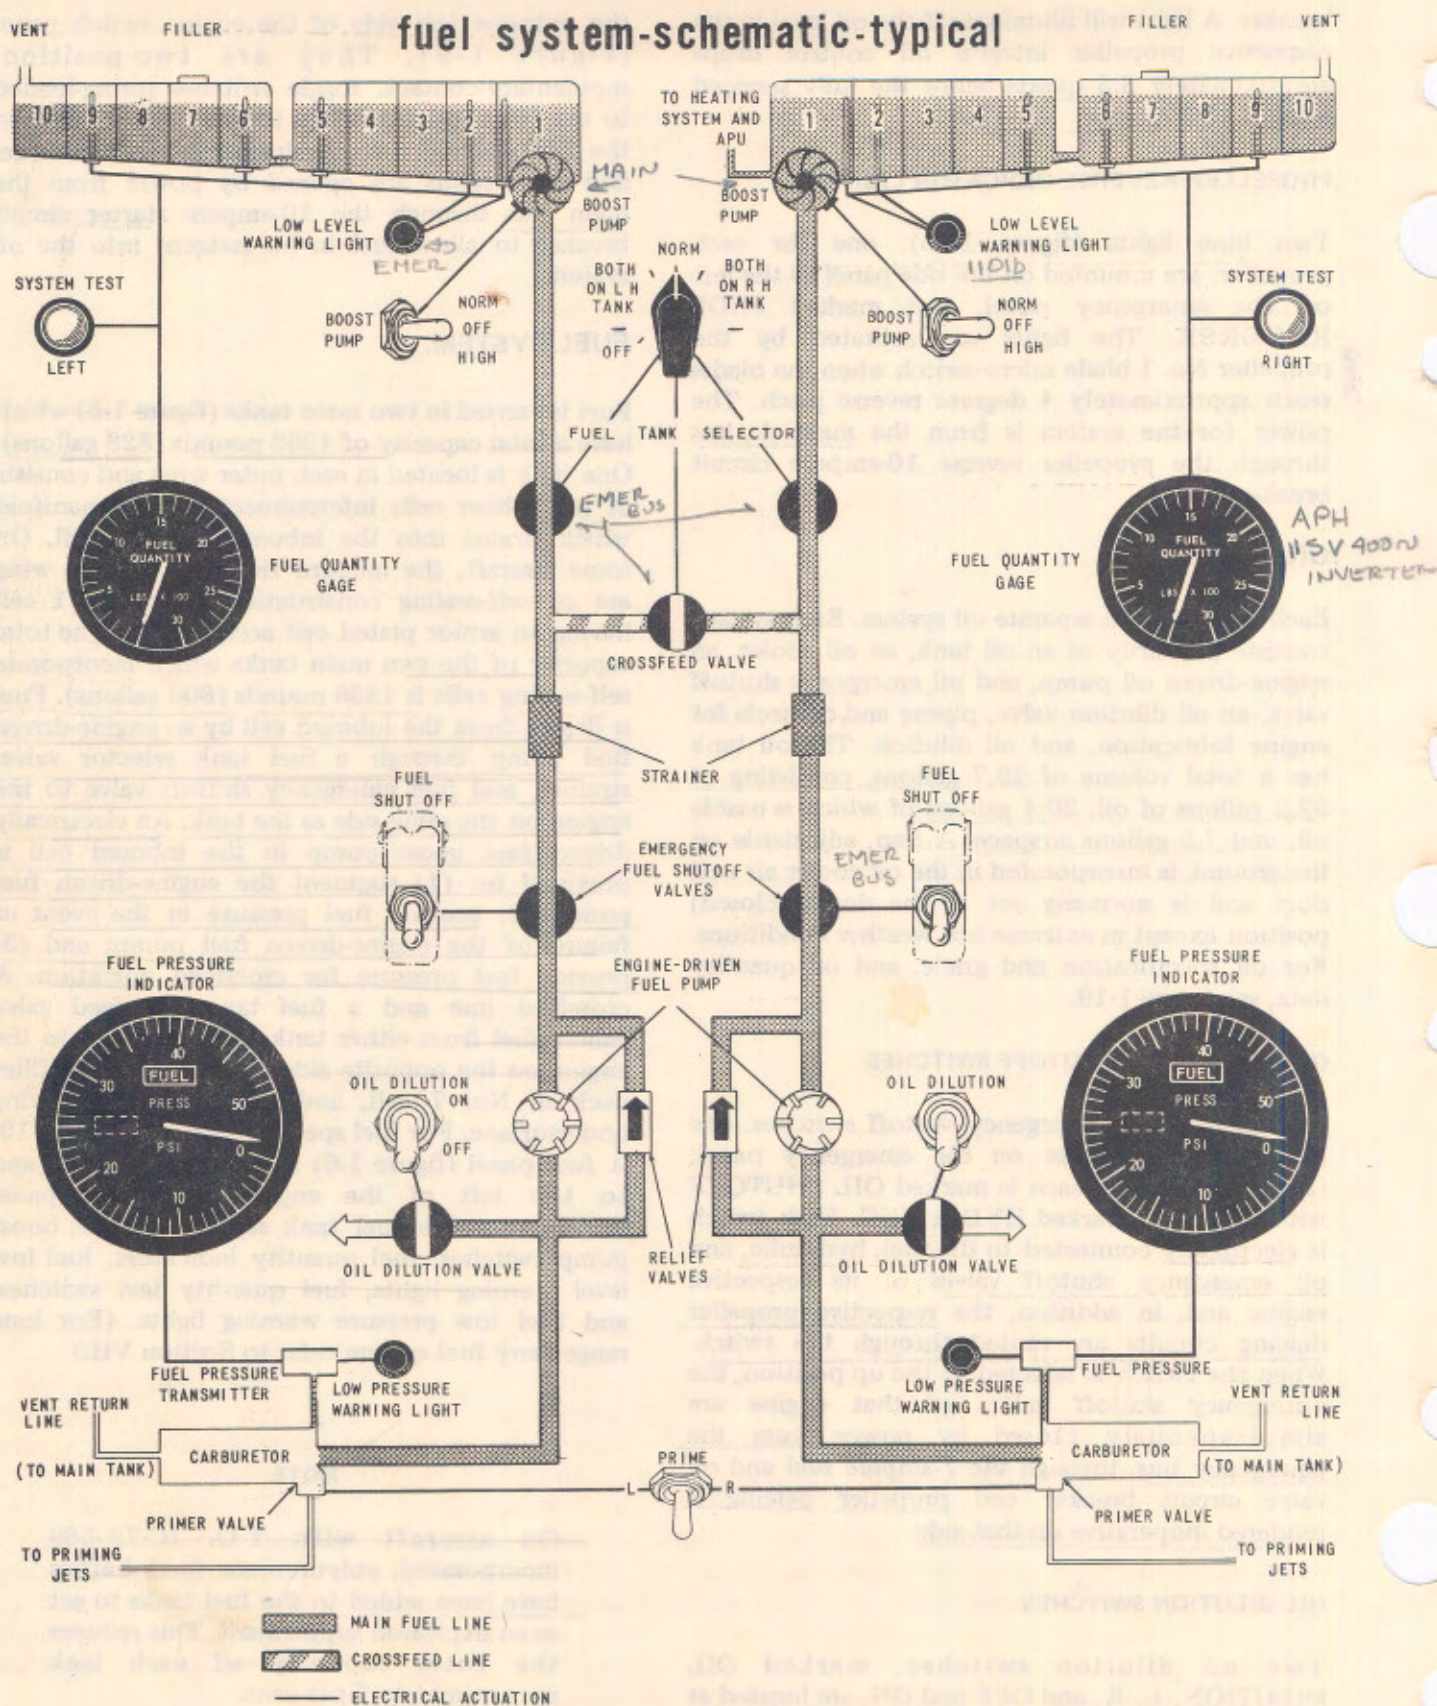
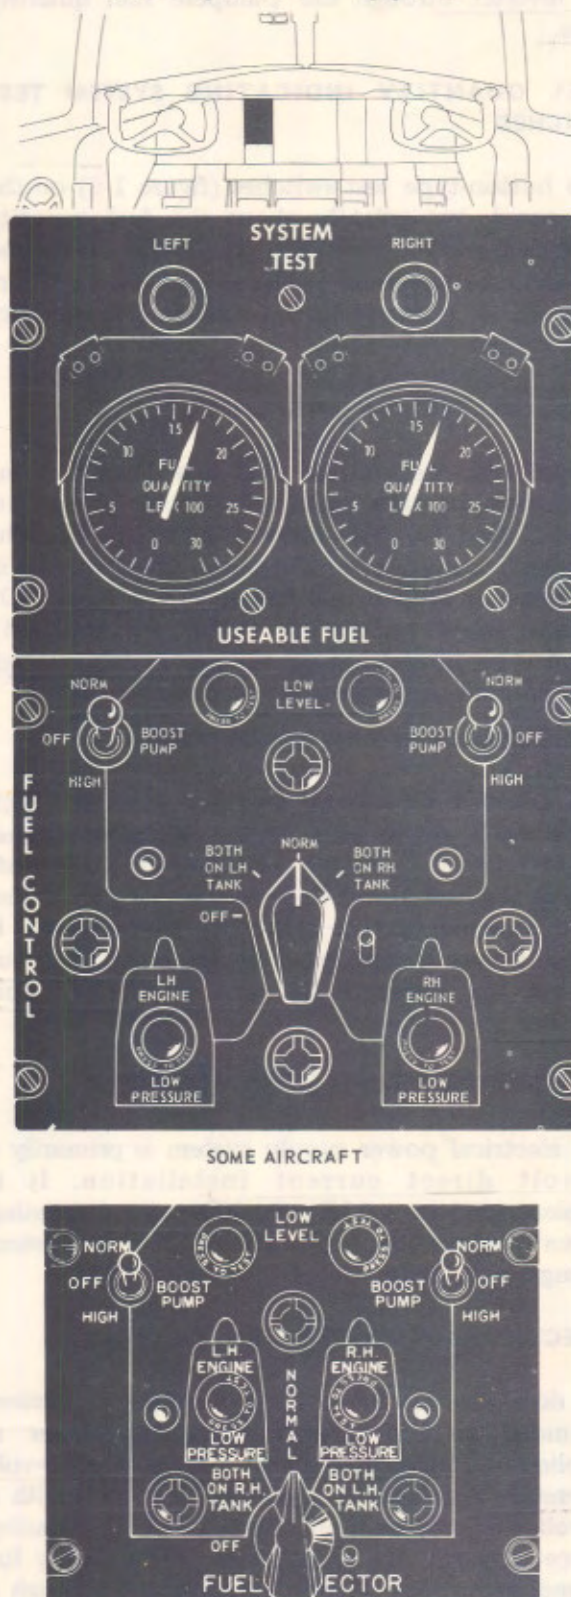

Figure 1-5
Figure 1-6
A red press-to-test warning light (figure 1-6) is provided for each engine. The lights are marked LH and RH ENGINE LOW PRESSURE, for the left and right engines respectively. A light will illuminate when fuel pressure at the carburetor inlet on the engine drops below 12 psi. Power is supplied from the emergency bus and the circuit is protected by the 5-ampere circuit breaker marked PRESS WARN, FUEL & OIL.
Fuel is carried in two main tanks (figure 1-5) which have a total capacity of 4968 pounds (828 gallons). One tank is located in each outer wing and consists of ten rubber cells interconnected by a manifold which drains into the inboard (No. 1) cell. On some aircraft, the inboard five cells in each wing are of self-sealing construction, with No. 1 cell having an armor plated cell access panel. The total capacity of the two main tanks which incorporate self-sealing cells is 4836 pounds (806 gallons). Fuel is drawn from the inboard cell by an engine-driven fuel pump through a fuel tank selector valve, strainer, and fuel emergency shutoff valve to the engine on the same side as the tank. An electrically driven fuel boost pump in the inboard cell is provided to: (1) augment the engine-driven fuel pump; (2) provide fuel pressure in the event of failure of the engine-driven fuel pump; and (3) provide fuel pressure for crossfeed operation. A crossfeed line and a fuel tank crossfeed valve enable fuel from either tank to be supplied to the engine on the opposite side. Each tank has a filler neck in No. 7 cell, and is vented to the wing undersurface. For fuel specification see figure 1-19. A fuel panel (figure 1-6) in front of the pilot and to the left of the engine instrument panel incorporates the fuel tank selector switch, boost pump switches, fuel quantity indicators, fuel low level warning lights, fuel quantity test switches, and fuel low pressure warning lights. (For long range ferry fuel system refer to Section VII.)
The rotary type fuel-tank selector switch located on the fuel panel (figure 1-6), on some aircraft, has four positions marked, in sequence from the left, OFF, BOTH ON R.H. TANK, NORMAL, and BOTH ON L.H. TANK. On some aircraft the switch has four positions marked, in sequence from the left, OFF, BOTH ON L.H. TANK, NORM, and BOTH ON R.H. TANK. On all Model C-7A aircraft, when the switch is OFF the fuel supply to both engines is shut off; at BOTH ON R.H. TANK fuel is pumped from the right tank to both engines; at NORMAL the crossfeed valve is closed and fuel is fed from each tank to its respective engine; at BOTH ON L.H. TANK fuel is fed from the left tank to both engines. The switch is connected electrically to two motor-driven selector valves and a motor-driven crossfeed valve in the fuel supply lines. Power is supplied from the emergency bus through the 7-ampere fuel and oil valve circuit breaker. A spring-loaded button, to the right of the selector, must be depressed before the switch can be moved to the OFF position. A line schematic of the fuel system is marked on the fuel panel and indicates the fuel flow to the engines both in the normal and crossfeed positions of the switch.
Two three-position toggle switches on the fuel panel (figure 1-6) are marked BOOST PUMP; the three positions are marked NORM, OFF, and HIGH. The switch should be in the NORM position for take-off, climb, and landing to insure an adequate fuel supply at normal pressure in the event of failure of the engine-driven fuel pump. For cruising, the switch should normally be in the OFF position. In the HIGH position, sufficient pressure is available, should an engine-driven fuel pump fail, for the normal operation of both engines from one tank. The switches electrically control the actuation of the related fuel boost pumps and are powered from the main bus through the 20-ampere boost pump circuit breakers.
Two fuel quantity gages are located on the fuel panel (figure 1-6). They are marked USEABLE FUEL and are calibrated from 0 to 3000 pounds in 100 pound increments. The gages are used with electrical capacitance type probes to indicate the amount of usable fuel in the related tanks. Power is
Two button-type test switches (figure 1-6) on the fuel panel, immediately above the fuel quantity gages, are marked SYSTEM TEST and LEFT and RIGHT respectively. When the switches are pressed, the pointers in the related fuel quantity gages should fall to zero.
Two amber press-to-test fuel low level warning lights, one for each tank, are located on the fuel panel (figure 1-6) and marked LOW LEVEL. The warning lights are set to illuminate when the fuel in the relevant tank drops below 110 pounds (100 pounds when self-sealing tanks are installed). Power is supplied from the emergency bus through the 5-ampere engine instrument circuit breakers.